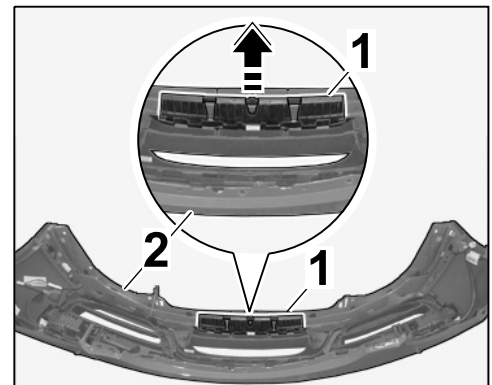

Figure 3
2.2.1 Unclip inner insert (⇒ *Figure 3*).